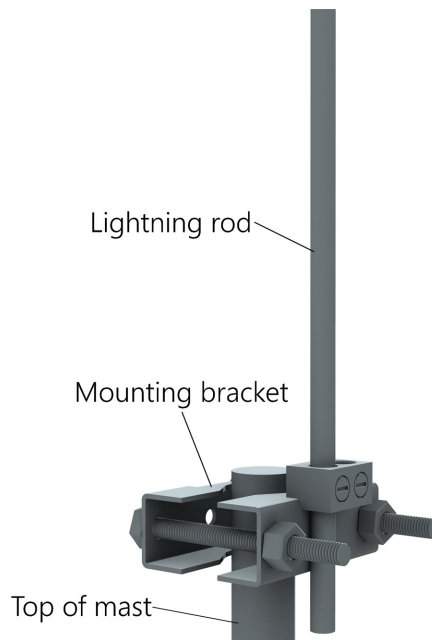

FIGURE 7-33. UT20 and UT30 lightning rod and mounting bracket
3. The mounting brackets, sensors, and lightning rod (FIGURE 7-33 (p. 39)) that attach to the upper tower sections are most easily attached while the tower is lying on the ground.